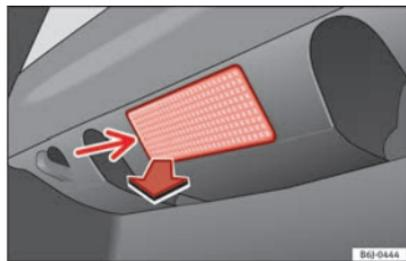

Fig. 200 Luggage compartment light
- Extract the bulb by pressing on its inside edge -arrow- using the flat side of a screwdriver ⇒ Fig. 200.